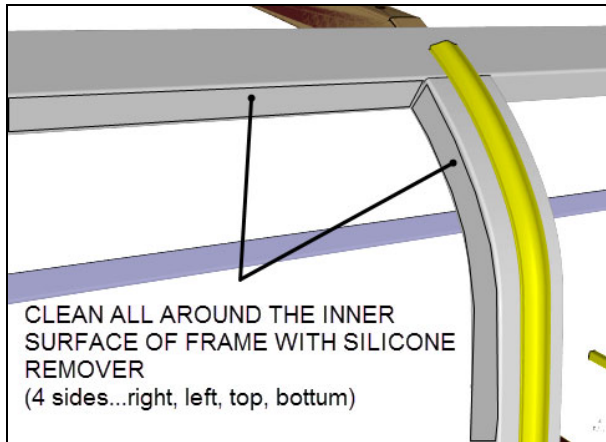
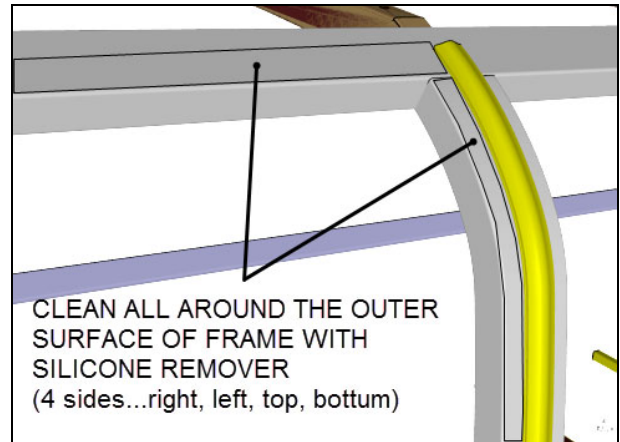

FIGURE 3
FIGURE 4
6. To avoid weak bonding, thoroughly clean the old adhesive layer on the structural member identified in FIGURE 3 and FIGURE 4 with silicone remover p/n 682989 and clean Chix clothes. Wipe and dry surfaces with clean blue clothes.